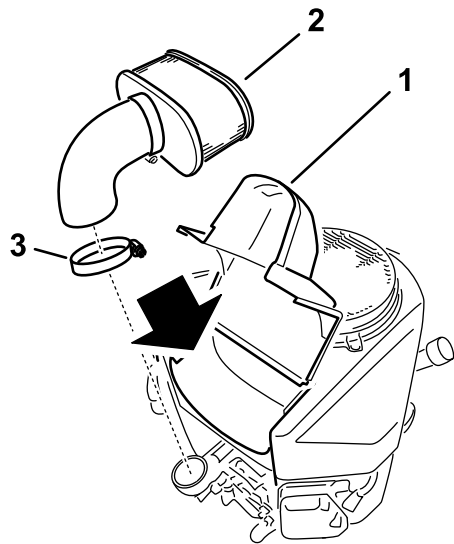

Figure 29
4. Loosen the hose clamp and remove the paper element (Figure 29).